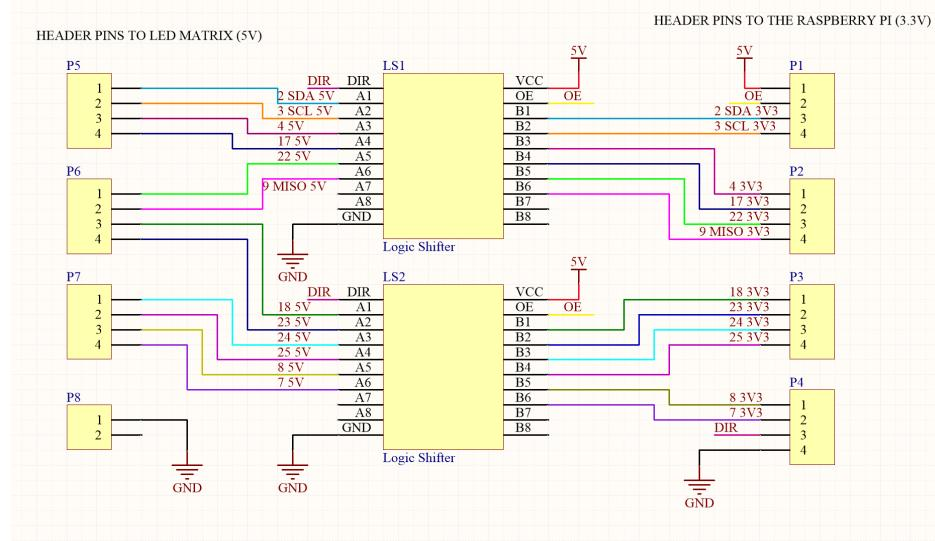
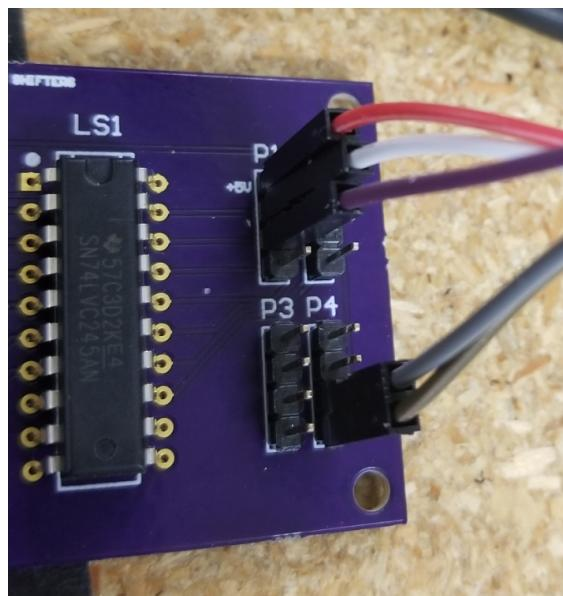

Figure 8: Logic Shifter schematic
Figure 11: Board Connections
In Figure 8 the wire labels correspond to the name of the GPIO pin the signal comes from on the raspberry pi. The data sheet for the logic shifter IC chip can be found at:
2. Now, you will need to run connections to the board from the Raspberry Pi. Figure 8 shows which pins on the board are connected to which pin on the Raspberry Pi, with the exception of the purple wire, which will be using to test the signals and drive it from the 3.3V DC power pin on the Raspberry Pi. Figure 11 shows which of these we will need to start connecting the board to test.
6. Repeat this process for the rest of the pins, following along with the circuit diagram in Figure 8, making sure each channel of the shifter is working correctly.